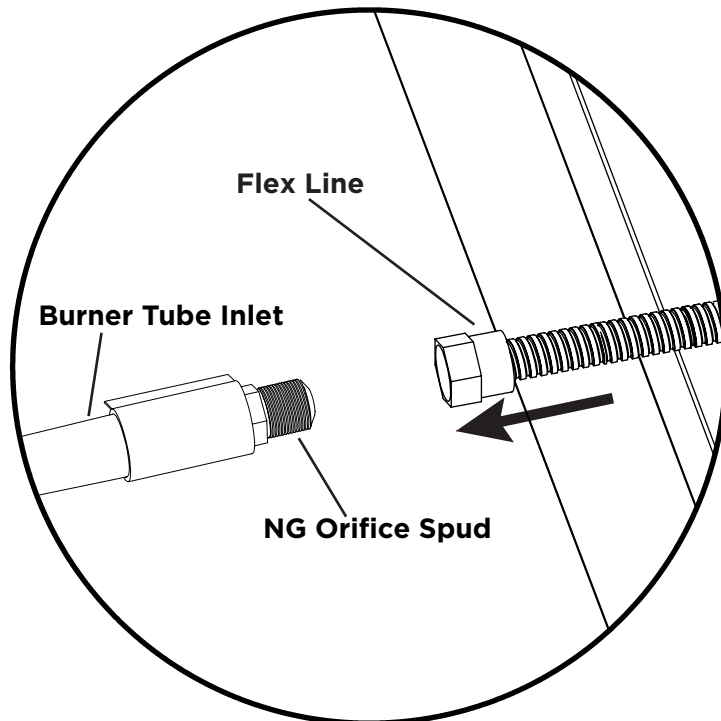

**Fig. 1**
- Slip the sleeve (3) over the primary air opening (see Fig. 1). Next, screw the new NG orifice spud into the burner tube inlet (see Fig. 2).